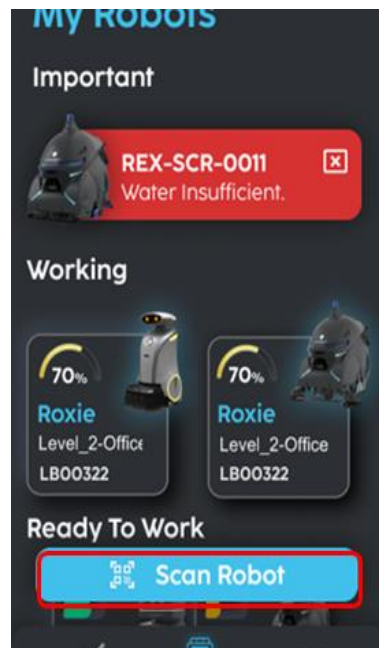
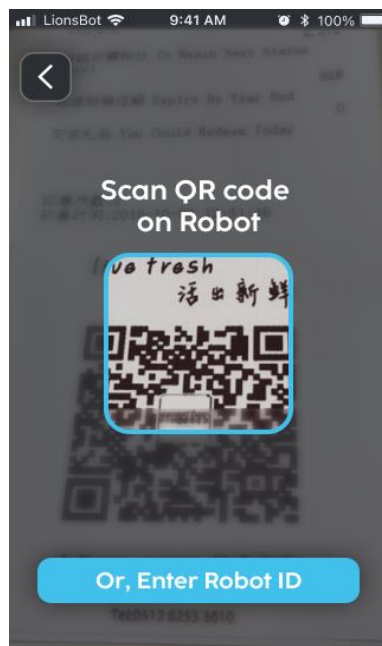

FIGURE 7-12
FIGURE 7-13
2. Scan the QR code on the robot (Fig. 7-12). Alternatively click on 'or, Enter Robot ID' to add using robot name or ID (Fig. 7-13).